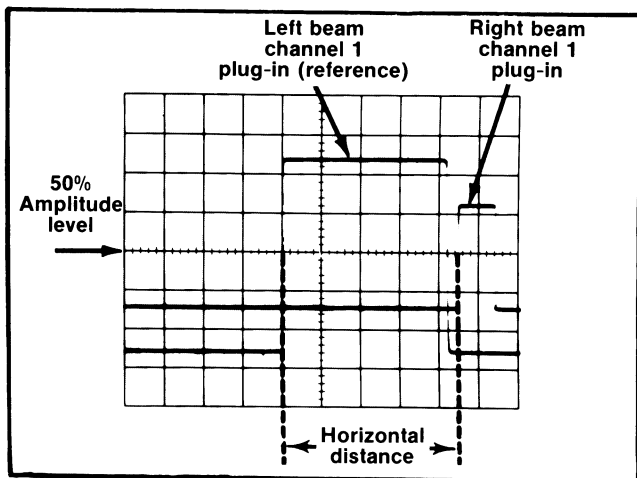

Fig. 1-5. Measuring time difference between two pulses.
10. Measure the horizontal distance between the two measurement points (see Fig. 1-5).